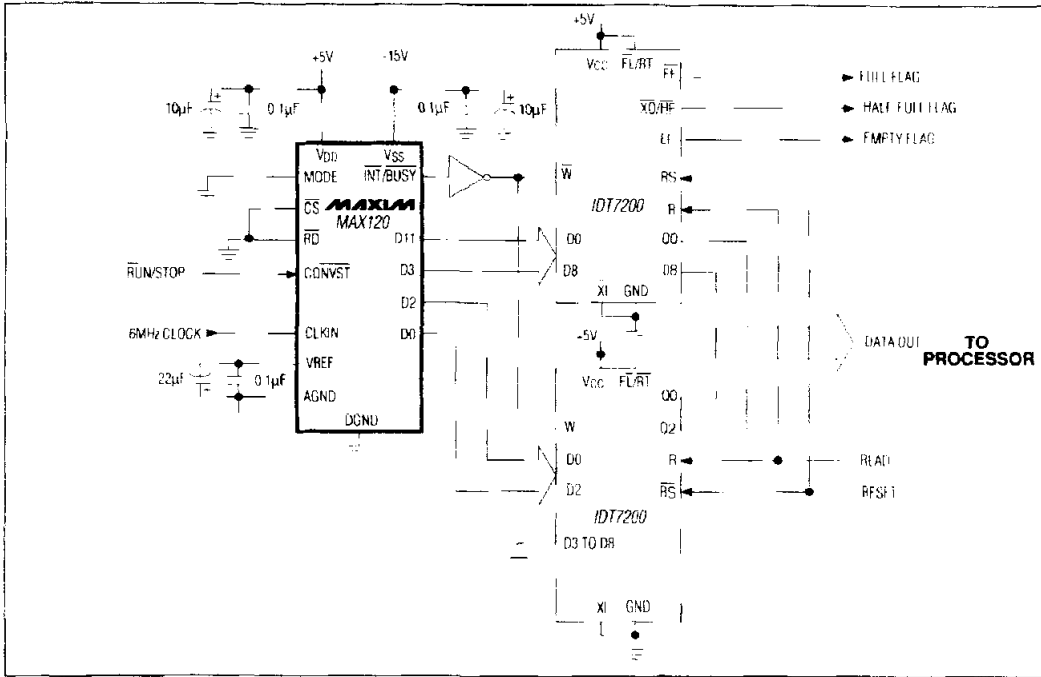

Figure 13. Using MAX120 with FIFO Memory
Using FIFO memory to buffer blocks of data from the MAX120 reduces  $\mu$ P interrupt overhead time by enabling the  $\mu$ P to process data while the MAX120, unassisted, writes conversion results to the FIFO. To retrieve a block of data, the  $\mu$ P reads from the FIFO via a read-interrupt cycle. Read and write operations for the FIFO are completely asynchronous. Figure 13 shows the MAX120 operating in continuous-conversion mode (mode 5), writing data directly into the two IDT7200 256 x 9 FIFO buffers at the rate of 428ksp/s. The  $\mu$ P is interrupted to read the accumulated data by the FIFO's half-full (HF) flag approximately three times per millisecond. For operation at 500ksp/s, use an 8MHz clock, and pulse CONVST at 500kHz. The full flag (FF) indicates that the FIFO is full. If this flag is ignored, data may be lost. If necessary, conversions can be inhibited by pulling  $\overline{CS}$ ,  $\overline{RD}$ , or CONVST high. The FIFO's read cycle times are as fast as 15ns, satisfying most system speed requirements. The RESET input resets all data in the FIFO to zero.